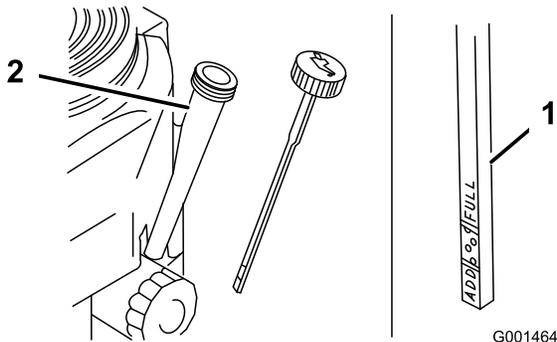

Figure 29
4. Clean around the oil dipstick (Figure 29) so that dirt cannot fall into the filler hole and damage the engine.
5. Unscrew the oil dipstick and wipe the end clean (Figure 29).
6. Slide the oil dipstick fully into the filler tube, but do not thread it onto the tube (Figure 29).
8. Slowly pour approximately 80% of the specified oil into the filler tube (Figure 29).